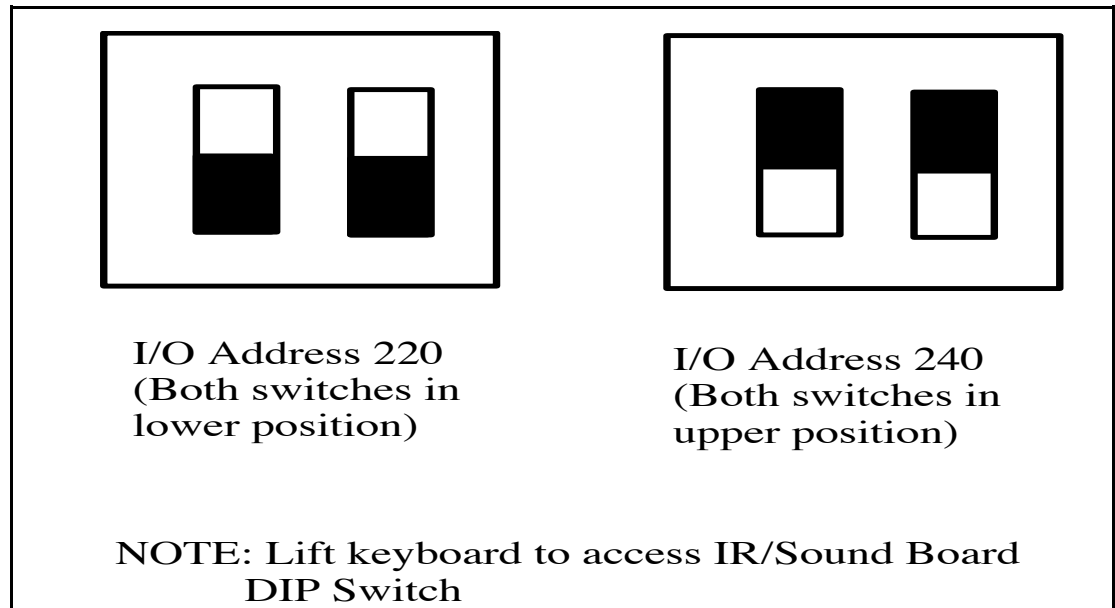

Figure 5-3 I/O Address Setting (IR/ Sound Board)
- I/O Address Conflict - The multimedia sound capability of the Extensa uses I/O address 220. However, this may conflict with some third-party PCMCIA cards like the IBM Token Ring card. In this case, reset the Extensa multimedia sound to I/O address 240 as shown in Figure 5-3.